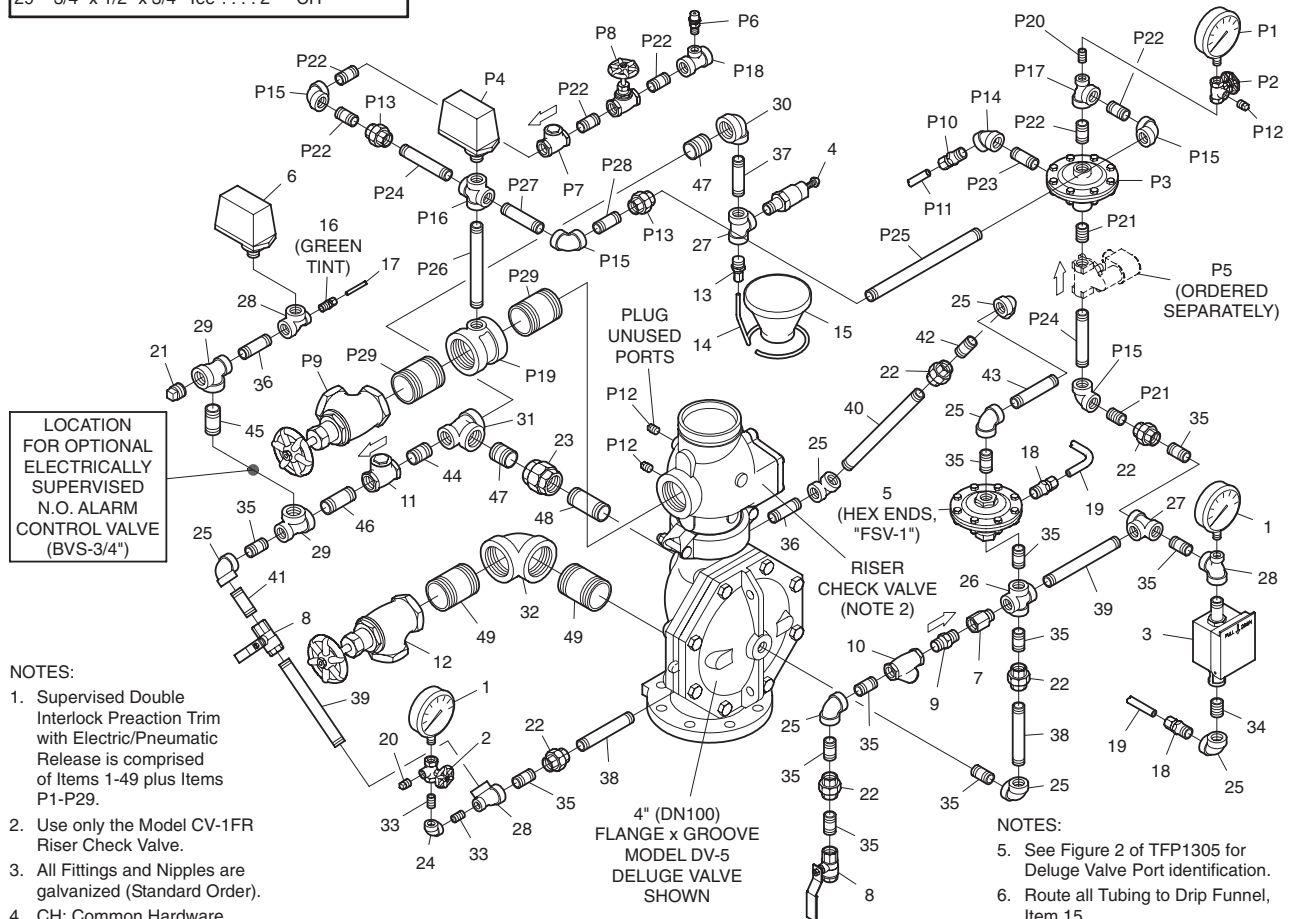

FIGURE 2A — PART 3 OF 3
2. Nipples 1-7 vary in length relative to the Model DV-5 size and Riser Check Valve used. Select per the appropriate table. All other nipples packed unassembled shall be installed per the appropriate trim exploded view, Figure 2A Part 1, 2, or 3.
As water flows into the system, the Model FSV-1 Fail-Safe Valve (Item 5 - Fig. 2A, also described in Technical Data Sheet TFP1386) becomes pressurized and upon operation constantly vents the DV-5 Diaphragm Chamber so as to maintain the DV-5 Valve in the open (operated) position until the system is reset.